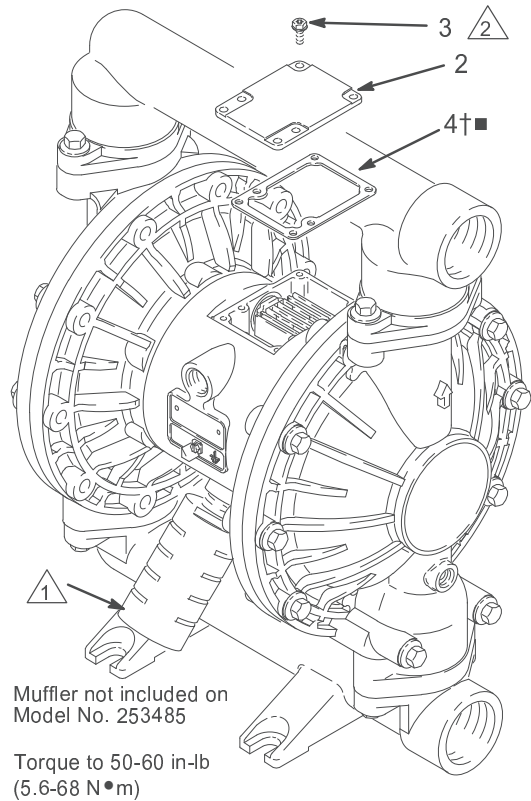

FIG. 6
2. With a Torx (T20) screwdriver or 7 mm (9/32 in.) socket wrench, remove the six screws (3), air valve cover (2), and gasket (4). See FIG. 6.
10. Align the valve gasket (4) and cover (2) with the six holes in the center housing (1). Secure with six screws (3), using a Torx (T20) screwdriver or 7 mm (9/32 in.) socket wrench. Torque to 50-60 in-lb (5.6-6.8 N•m). See FIG. 6.